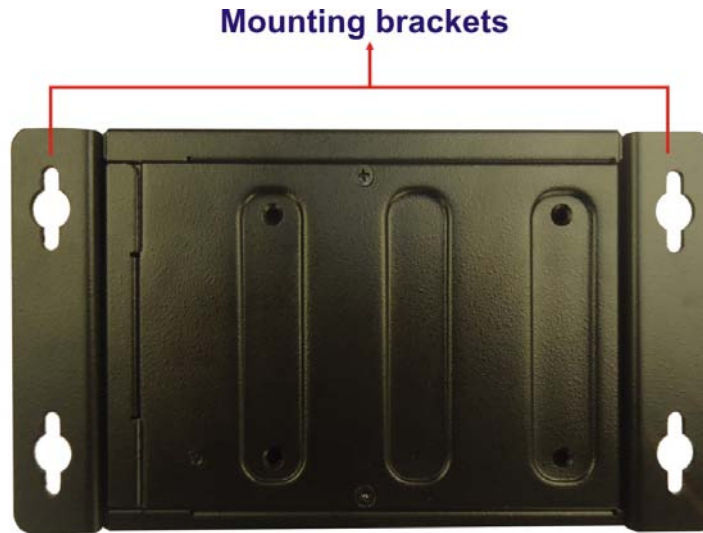

Figure 3-8: Mounting Bracket
- Step 4:** Secure the brackets to the system by inserting two retention screws into each bracket as illustrated in **Figure 3-8**.